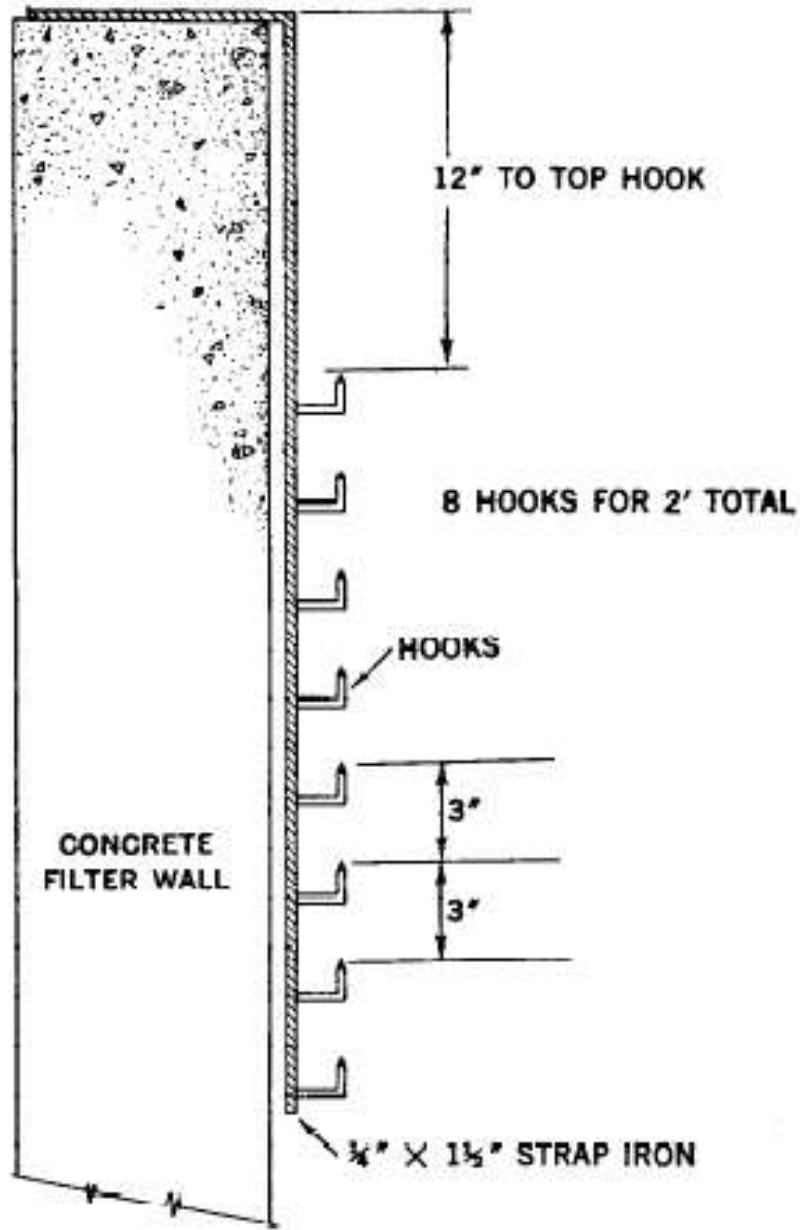

Figure 2
b. Hook Gage. A multiple hook gage (Figure 2) is a series of vertical, sharp, pointed rods held in a frame that may be hung on the side of the filter. The tips of the sharp, pointed rods are set accurately at 2- or 3-inch (50- to 75-mm) spacings. The hook can be used to check the rate of filtration or backwashing, although its primary use is for measuring backwash flow rate. Hang the frame on the side of the filter and accurately record the time required for the water level to fall or rise between the points. The volume of water in the filter box between the gage points can easily be calculated. From the recorded time, the flow rate can accurately be determined.